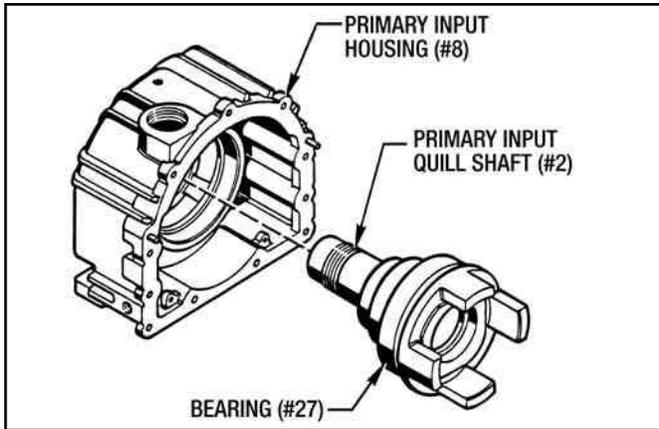

Figure 9.14 - Primary Input Quill Shaft Installation
- Insert the Input Shaft (#2) into the Input Housing (#8), as shown in Figure 9.14.